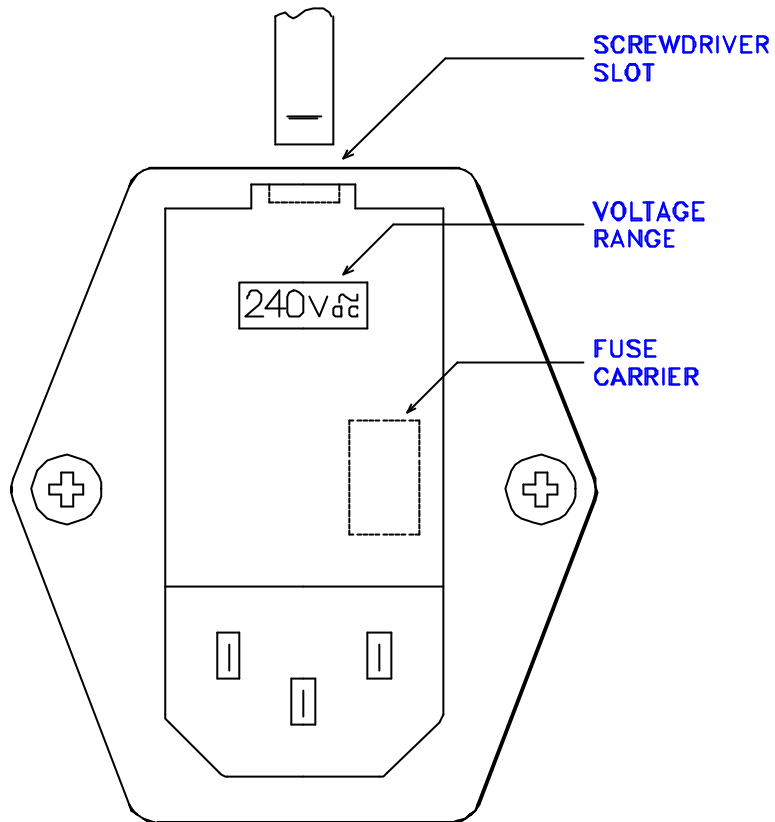

FIGURE 2.2.2 SUPPLY VOLTAGE SETTING
- iii. The 9914 should be checked for supply setting, which is printed on a label at the rear of the machine. The actual setting, which is visible on the mains input socket (see Figure 2.2.2) must match this, otherwise the setting must be changed and the fuse rating checked.
- ii. insert a 5 mm flat-bladed screwdriver where illustrated (in Figure 2.2.2) and hinge the panel open;